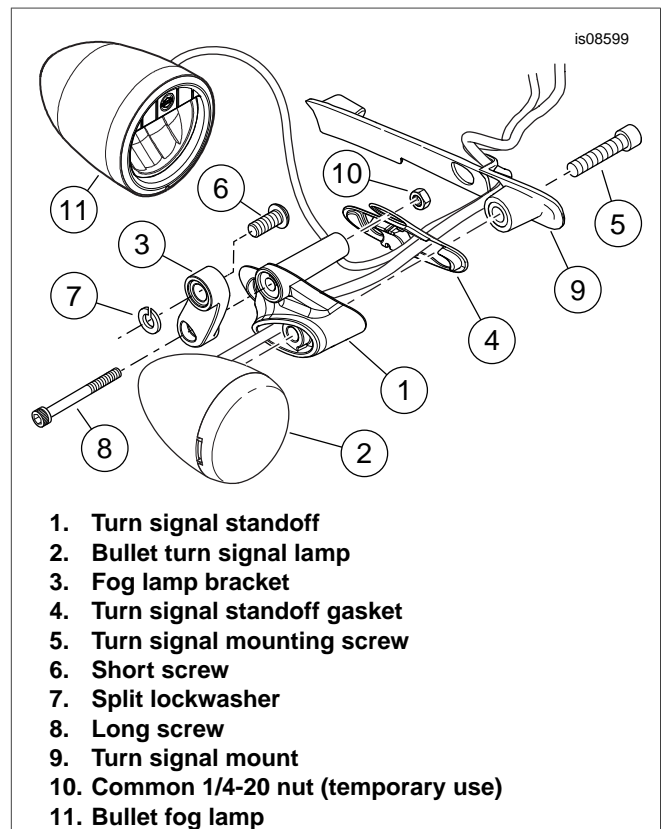

Figure 4. Temporary Lamp Assembly (Right Side Shown)
1. See Figure 4. Get the correct-side turn signal standoff (1) and gasket (4) from **this** kit.
7. See Figure 4. Get the short screw (6) and split lockwasher (7) from the kit.
8. Insert the screw through the fog lamp bracket (3) as shown. Place the lockwasher (7) into the counterbore in the bracket, over the screw threads.
1. See Figure 4. Remove turn signal screw (5) and bracket (9) from one lamp and standoff assembly.